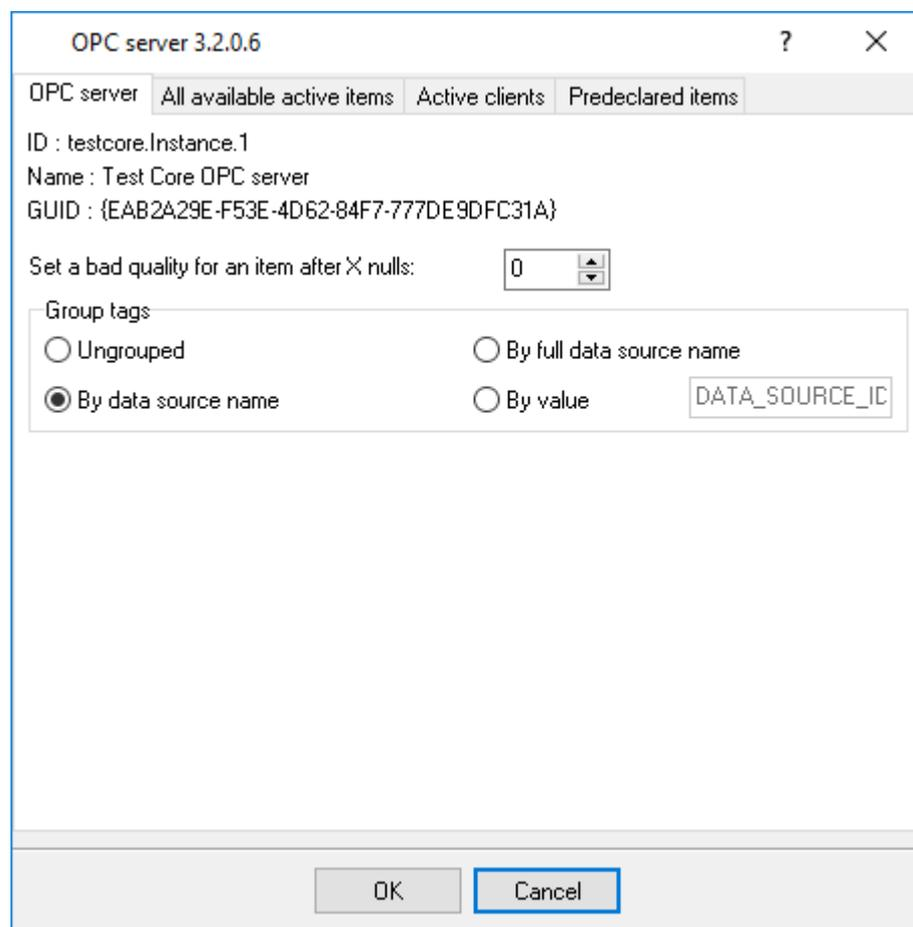

Fig. 18. OPC server parameters
- **Events handling** (fig. 18) - these plugins are used to handle events generated by the Log Monitor & Export software. Once an event occurs (for example, "Data source is opened" or "Configuration changed"), the plugin creates a text message using the specified template,
Log Monitor & Export has an internal OPC server. It means that any OPC compatible client application can get data from Log Monitor & Export without any additional software. To connect to the OPC server, you need the server ID and name (fig. 18). Before using the OPC server on your computer, you should download and install the OPC Core Components Redistributable from www.opcfoundation.org (registration required).